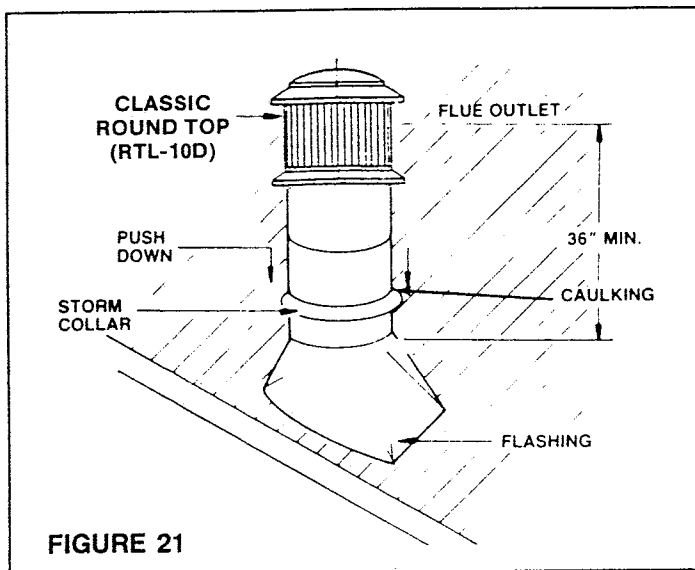

**FIGURE 20**
**STEP 5:** After cutting the hole in the roof, uncover the pipe and add sections until the chimney extends a minimum of 14 inches above the highest point of the roof cutout (Figure 20).
**STEP 6:** Position the flashing over the chimney and flat on the roof. Mark an outline of the flashing on the roof and remove the flashing. Remove all nails within the outlined area (Figure 20).